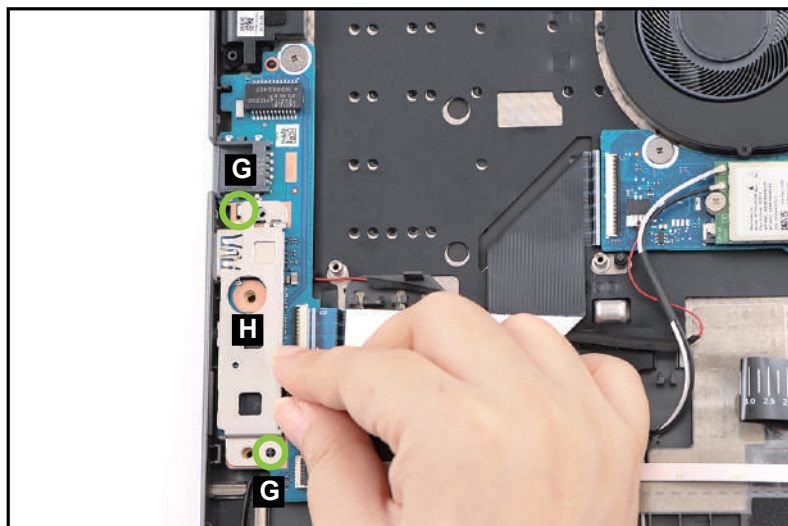

Figure 3-161. Replacing the Smart Card Holder
- By aligning with the guide pins (G), install the left IO bracket (H) onto its slot on the USB board as shown in Figure 3-161.